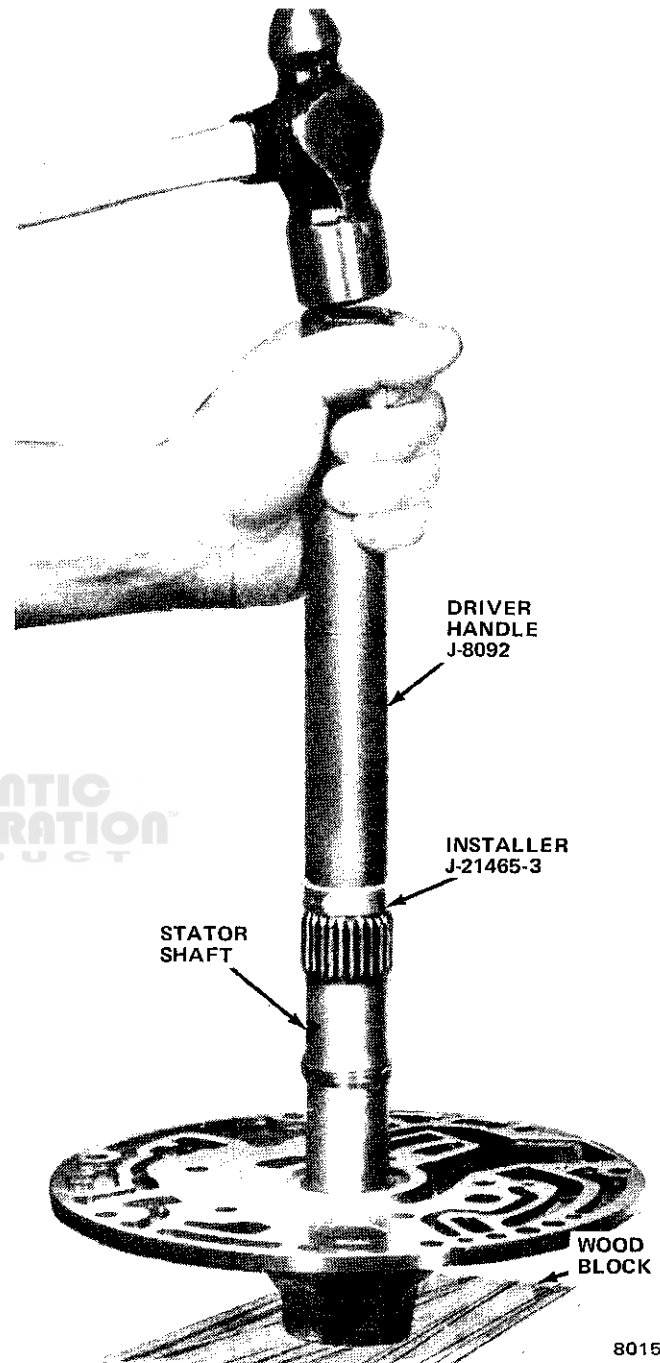

Fig. 2C-130 Stator Shaft Front Bushing Installation
(4) Remove shaft and cover assembly from vise.
(5) Support pump cover on wood blocks with cover seal ring hub facing upward.
(6) Clean bushing bore.
(7) Assemble Installer J-21465-3 and Driver Handle J-8092.
(8) Position replacement bushing on Installer J-21465-3 and install bushing (fig 2C-132). Drive bushing into bore until bushing is 19/32 inch (15.08 mm) below hub surface.
(9) Remove bushing tools.
(10) Flush cover and shaft assembly with solvent to remove any chips or shavings generated by bushing installation.
(1) Mount transmission case in Holding Fixture J-8763-01 (fig. 2C-11). Position case so converter housing is facing downward.